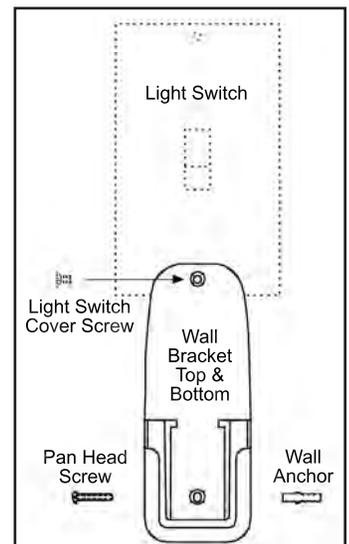

Figure 44: Wall Bracket Installation Option 3.
3. Mounted to wall and bottom of light switch cover with top and bottom of mount; refer to Figure 44.